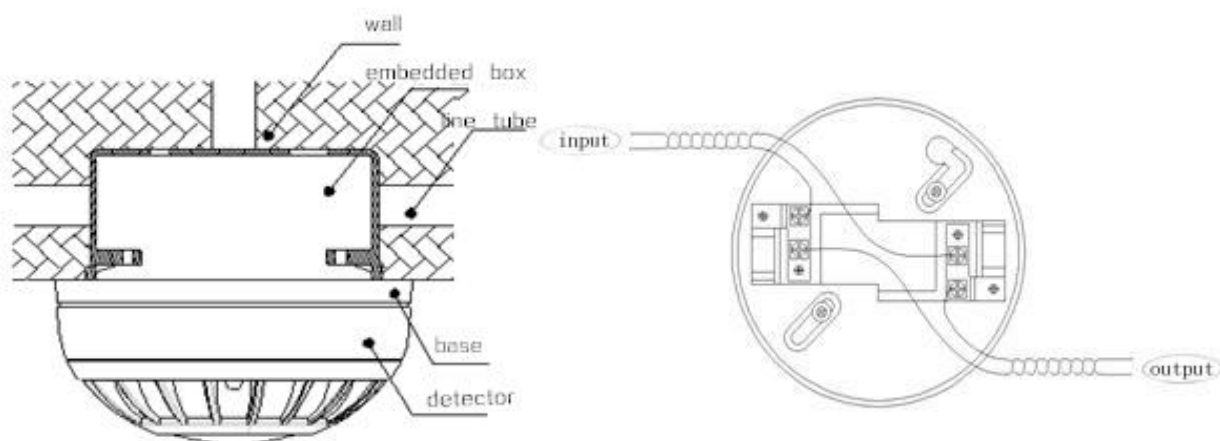

Figure 2 Installation diagram
1. Smoke detector installation and wiring diagram shown in Figure 2
Figure 2 shows the installation of the temperature detector
Figure 2 installation diagram
Alarm button installation (Figure 2)
Figure 2 alarm button installation diagram